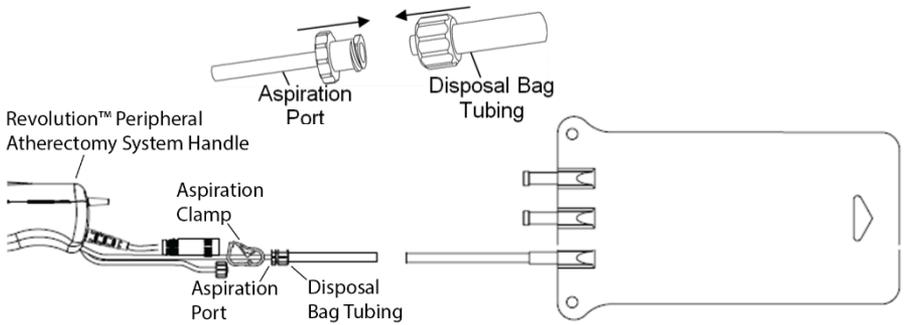

Figure 6: Connect disposal bag
- Attach the supplied disposal bag to the aspiration port, as seen in Figure 6. **NOTE: Ensure that the aspiration clamp is opened and the tubing is not damaged. Never activate the device if the aspiration clamp is closed.** The Revolution™ Peripheral Atherectomy System is now ready for use.
12. Release the ON/OFF button so that the Revolution™ Peripheral Atherectomy System is no longer rotating and image the vessel. **Warning: When the Revolution™ Peripheral Atherectomy System is not activated, arterial pressure may force excess blood into the disposal bag. Always shut the aspiration clamp, as seen in Figure 6, when the device is not in use. Before subsequent use, ensure that the clamp is opened and tubing is not damaged. Never activate the device with the aspiration clamp shut.** If continued treatment is required, push the speed switch to the back position (slow speed) and depress the ON/OFF button to fully remove particulate from within the system. Ensure the system is flushed with heparinized saline and push the speed switch back to the forward position (fast speed) before activating the Revolution™ Peripheral Atherectomy System again.